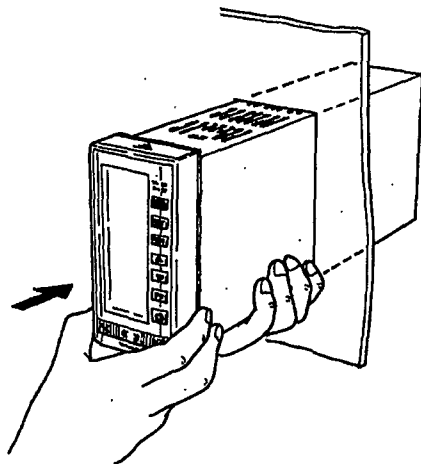

Figure 2.1 Inserting in the Panel
(1) When Installing a Single Unit
- ① Using a screw driver, loosen the two screws of the mounting brackets supplied with the unit.
- ② Insert the unit in the front of the panel (see Figure 2.1).